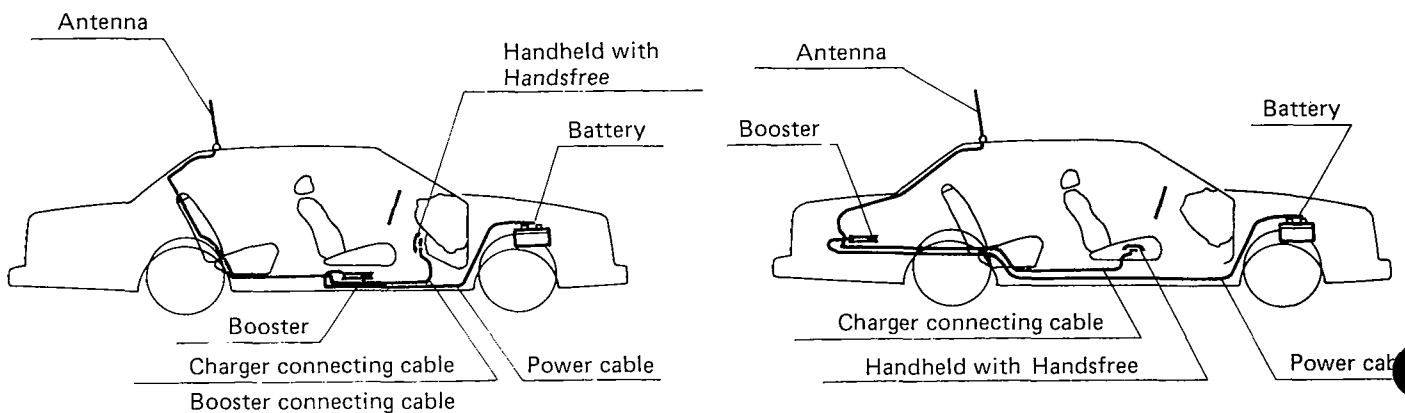

Fig. 1.3
- Actual locations of units may vary according to vehicle type. Fig. 1.3 shows the other examples of wiring.